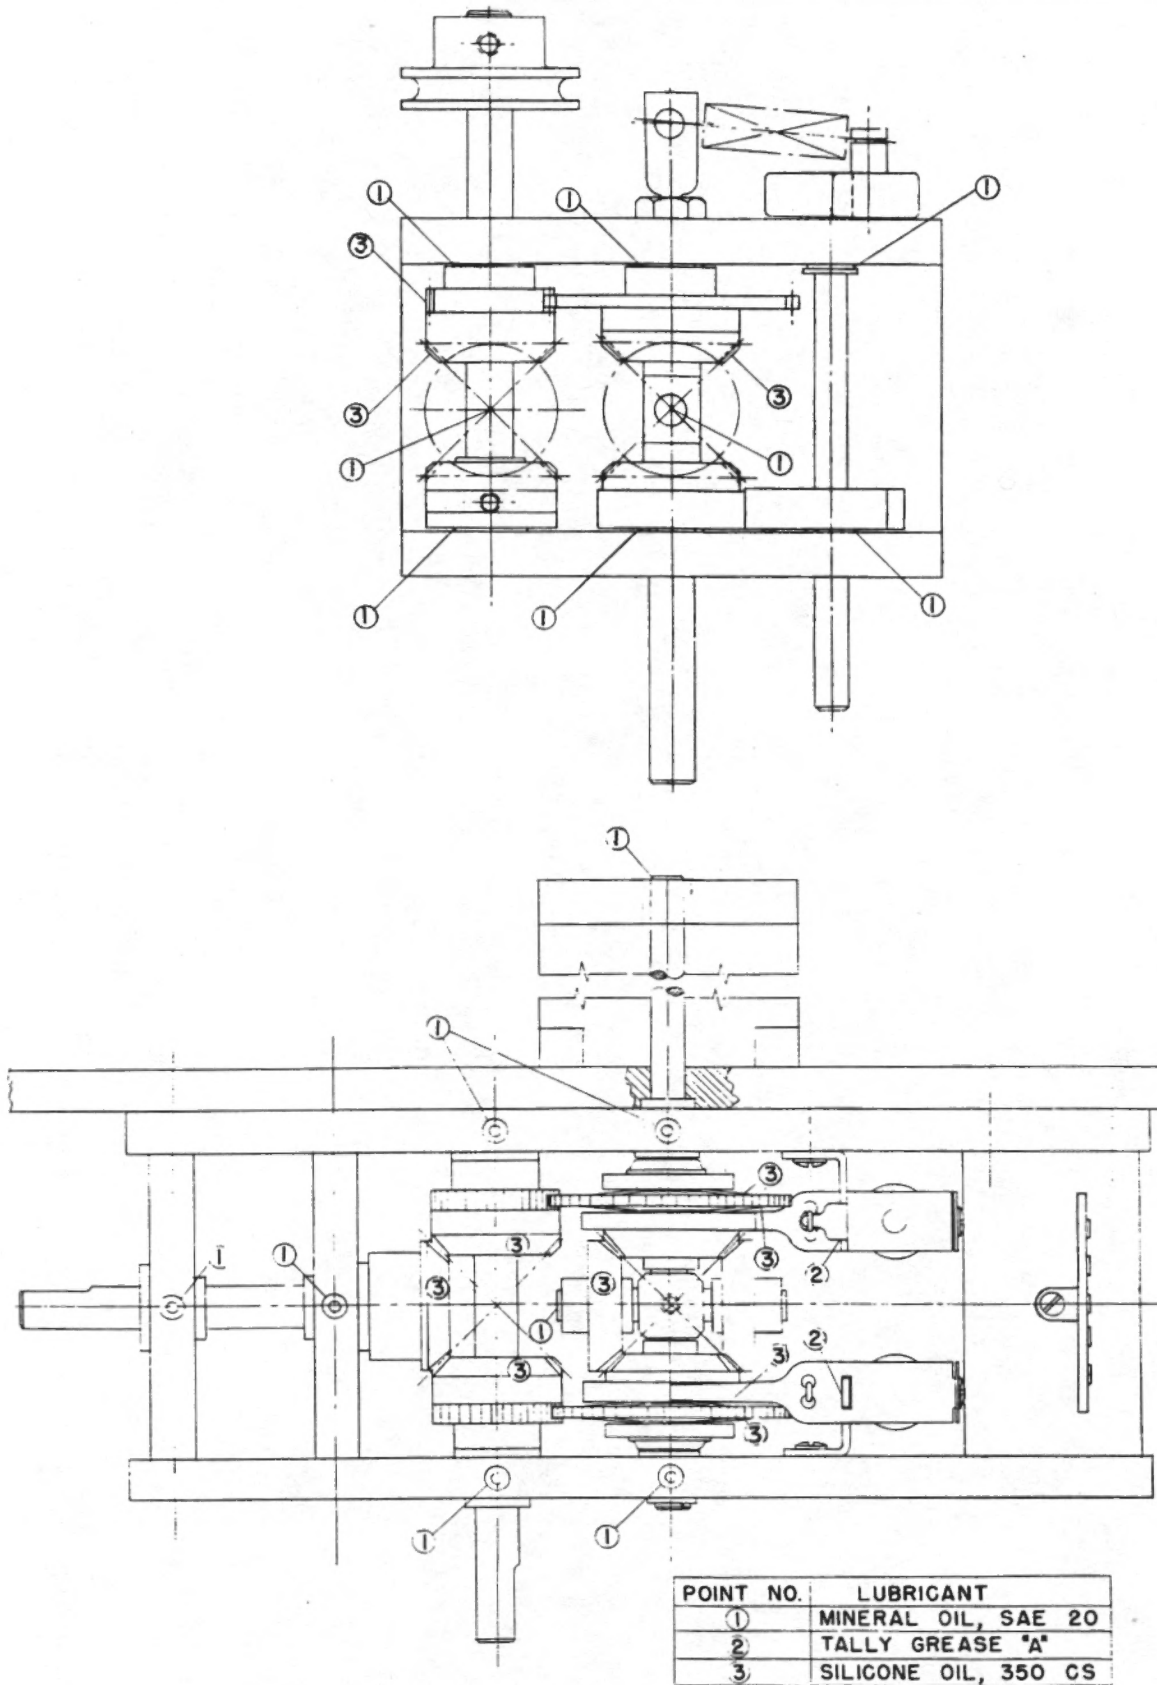

Figure 12. Lubrication Chart
5.1 Lubrication (See Figure 12)